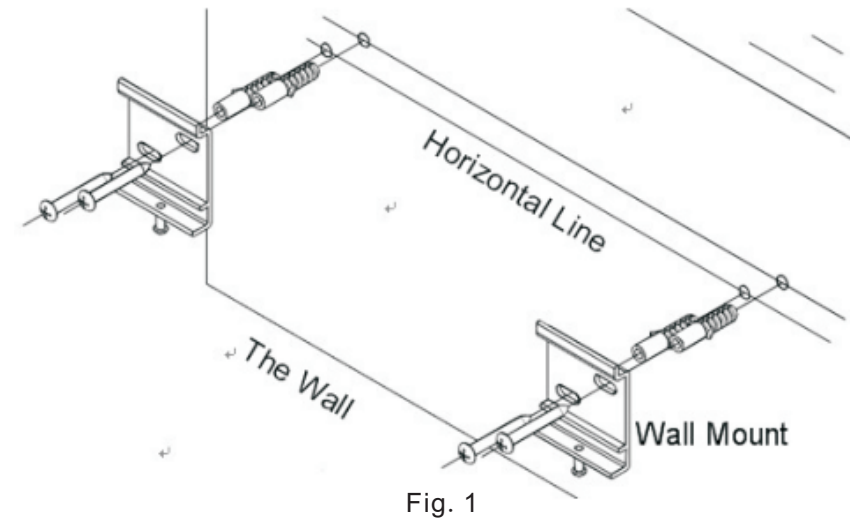
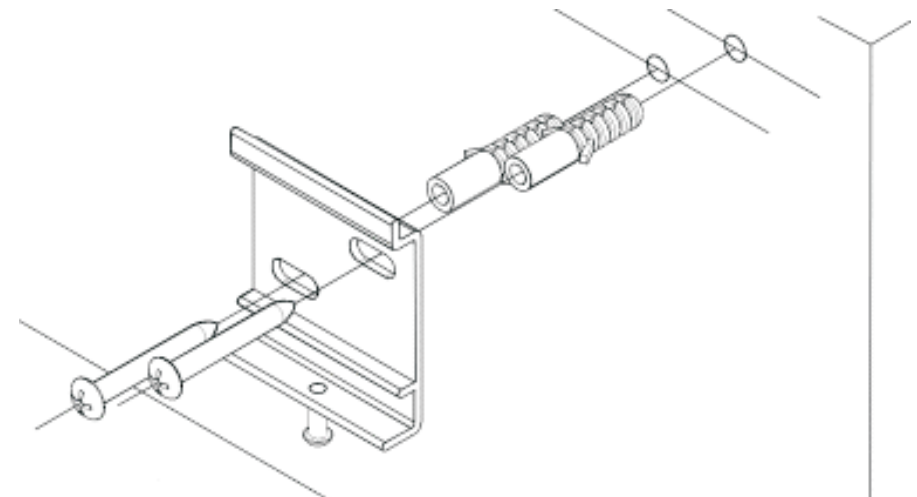

Fig. 1
Fig. 2
1. Draw a horizontal line on the wall according to the suitable height, installation distance and projection center of the screen and make sure the two ends of screen is on the same level as Fig 1 and Fig 2.